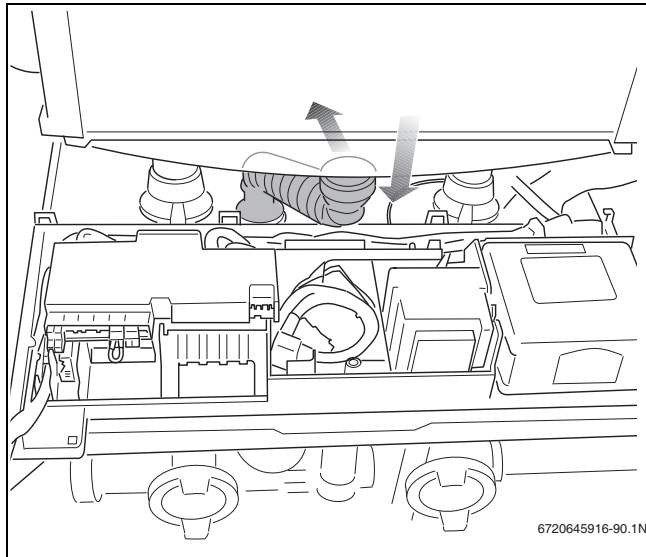

Fig. 93 Removing the condensate trap hose
- Disconnect the flexible condensate drain hose and bend it backwards (→ fig. 93).